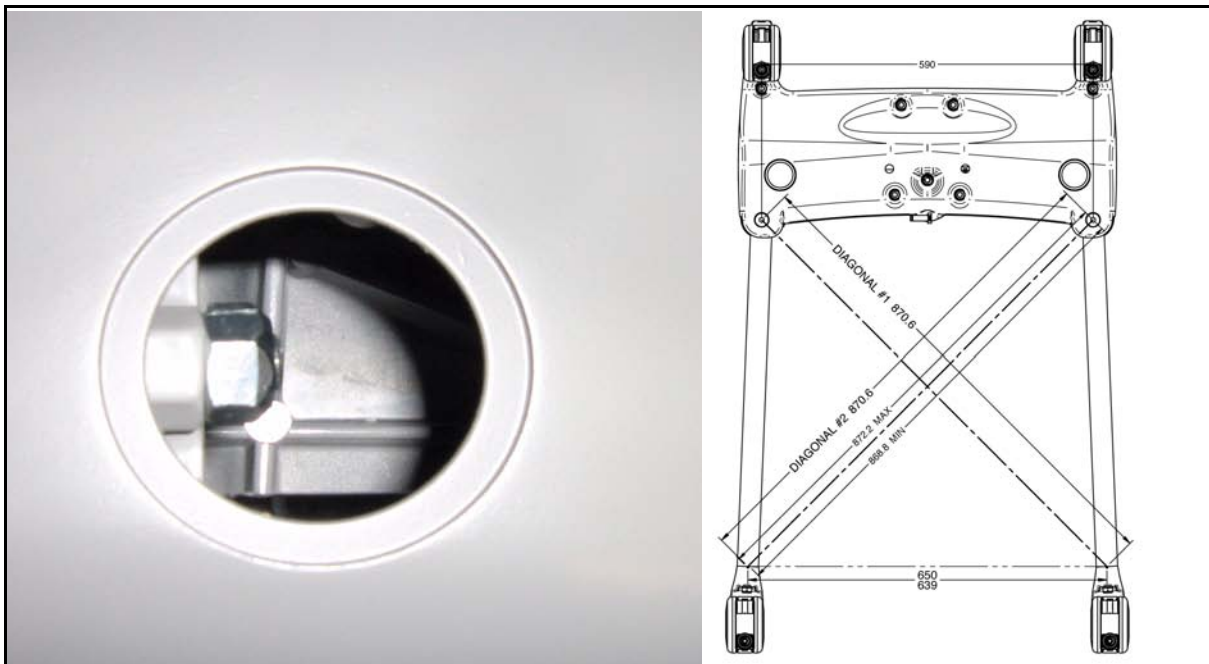

Fig.14
- 3) Measure the distance according to Fig.14. If the dimensions are out of tolerance, the legs must be adjusted.